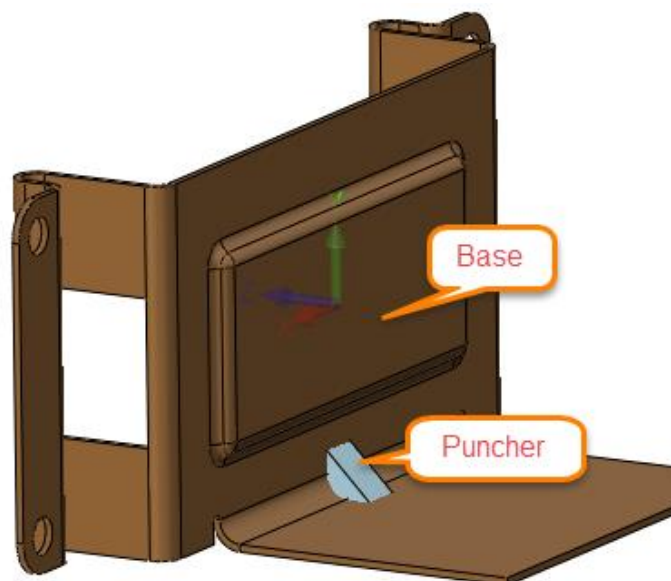

Figure82 Puncher and Base
STEP 04 Punch a stiffener as shown in Figure 82.